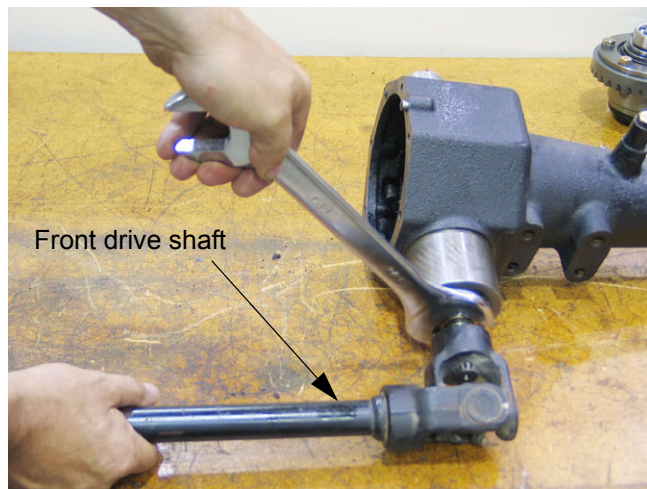

Figure 9.17
- 9.17. After the nut is de-staked, use the front wheel drive shaft to hold the pinion shaft, while tuning the nut with a 1 1/4" wrench. See Figure 9.17.